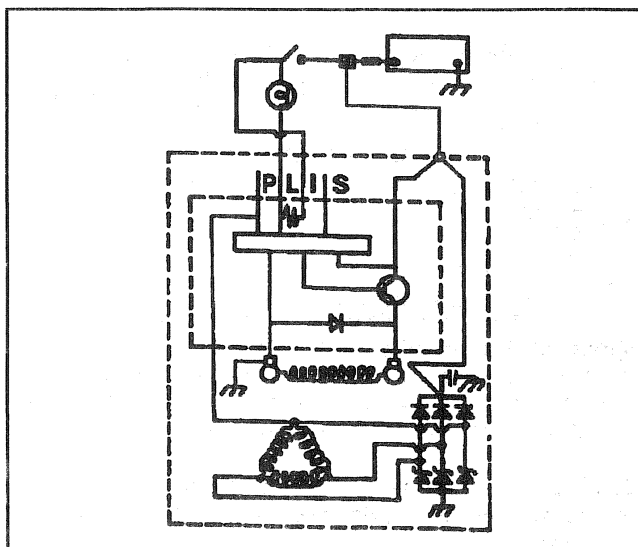

Figure 3—CS-130 Generator Schematic
A basic wiring diagram for the charging system is shown in Figure 3. When the system is operating normally, the indicator lamp will turn on when the ignition switch is turned on and turn off when the engine starts. If the lamp operates abnormally or an undercharged or overcharged battery condition occurs, the "Diagnostic Test for CS-130" in this section may be used to diagnose the charging system. Remember that an undercharged battery is often caused by accessories being left on overnight or by a switch stuck closed that allows a lamp, such as an instrument panel compartment lamp, to stay on.
2. With the ignition switch on and the engine off, the lamp should be on. If not, detach the wiring harness at the generator and use a fused jumper wire (J 36169 or equivalent with a 5 ampere fuse) to ground the "L" terminal lead in the wiring harness (Figure 3).